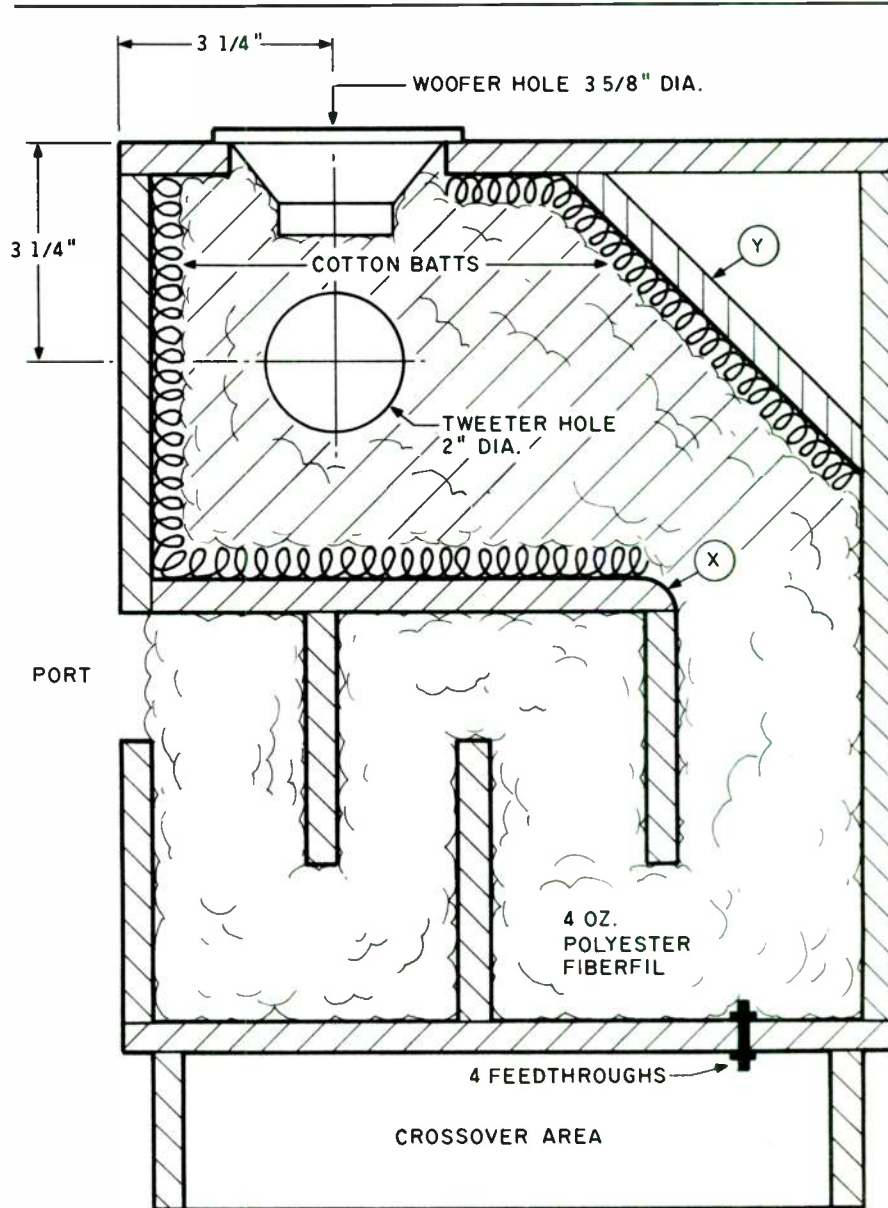

FIGURE 2: The Octaline's general layout. Install additional cotton batts on the inside front and rear walls of shaded area below the woofer.
Glue the top piece to the front panel, followed by the full length side piece and the upper section of the opposite side. Next, glue the bottom and lower side piece, followed by the tunnel piece (X) [Fig. 2] and the three short tunnel pieces. Finally, glue the reflector (Y) into place. When the glue is dry, go around and add fillets to all joints. (A third time around won't hurt.)